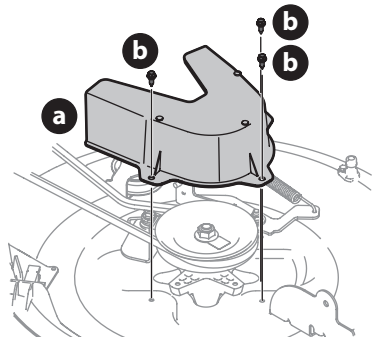
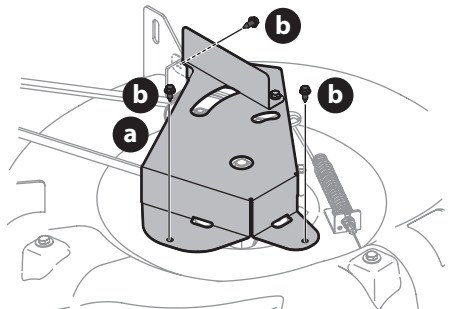

Figure 34
Figure 35
- Remove the deck belt cover (a) by removing the three hex bolts (b) that secure it. See Figure 34 for 30" decks and Figure 35 for 24" decks.